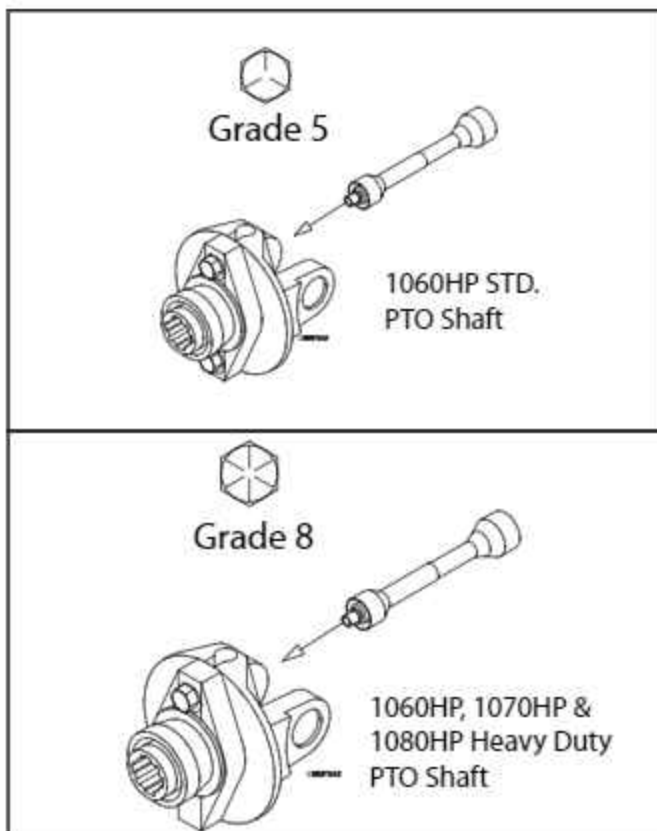

FIG. 5-7. PTO Shaft Shear Bolts
The driveline is protected by a shear bolt(s) inside the bell of the PTO shaft where it connects to the tractor as shown in Fig. 5-7. If the shear bolt(s) fail:
3. Install new shear bolt(s). See Fig. 5-7.